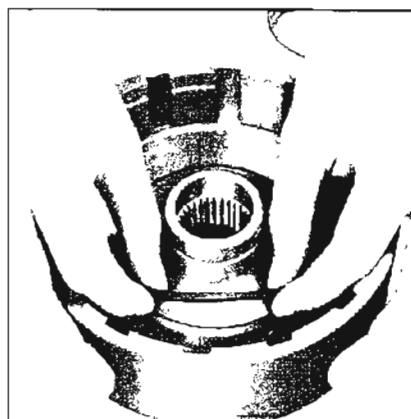

Figure 5-636
3. Install a new center seal on clutch housing with lip of seal facing up. See Figure 5-636.